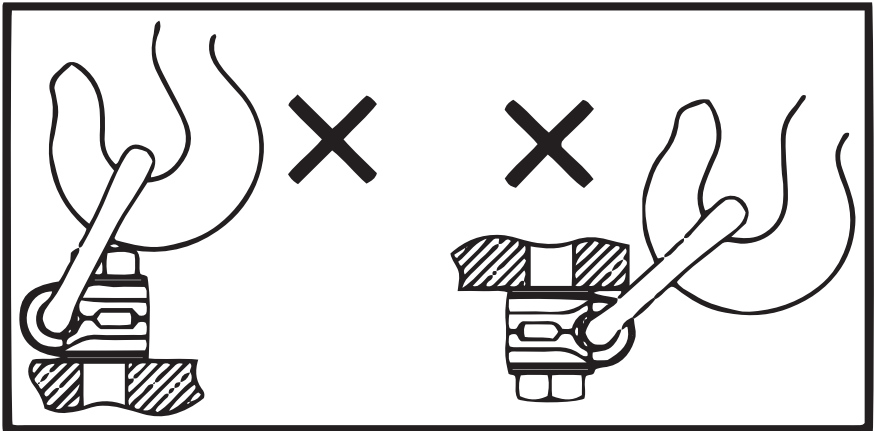

Figure 2
- Apply partial load and check proper rotation and alignment. There should be no interference between load (work piece) and hoist ring bail (Figure 2).